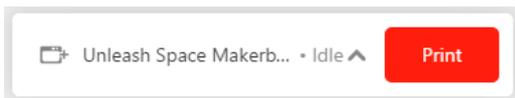

Figure 6: Print Button
- v.) Print by clicking on the red 'Print' button shown in Figure 6 below.